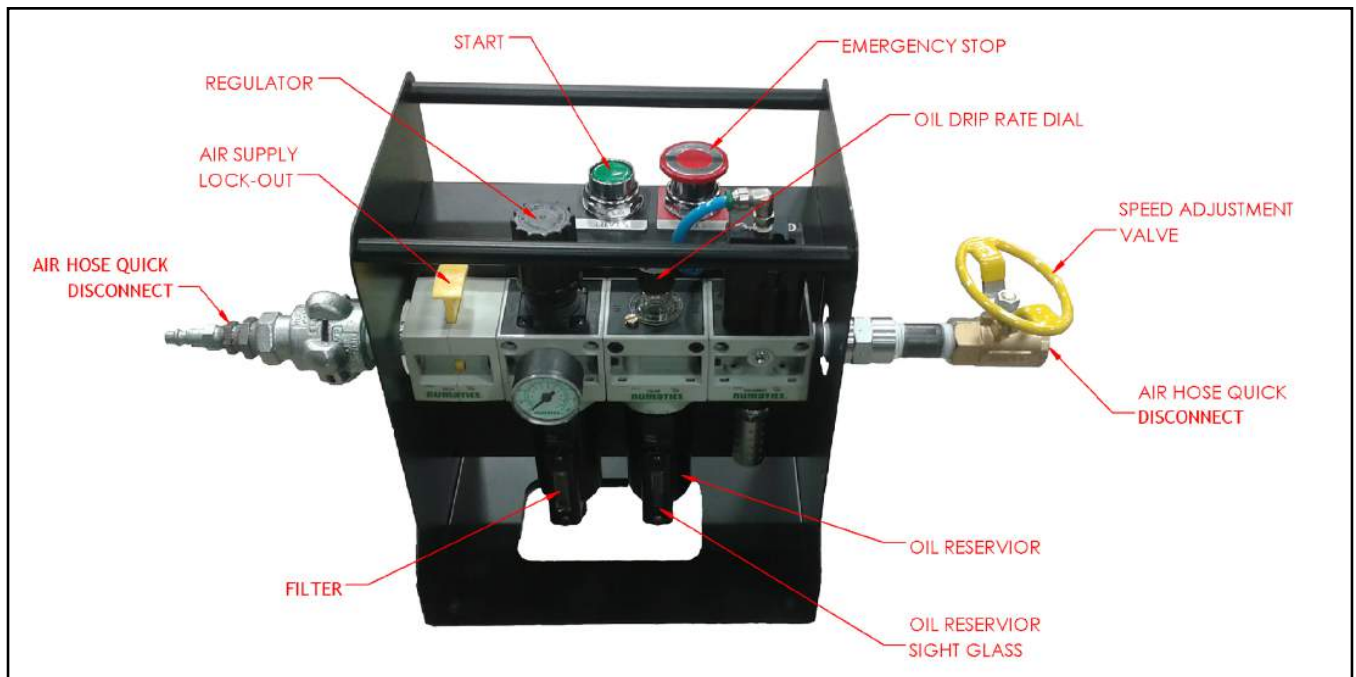

FIGURE 4-4. AIR CADDY CONTROLS
1. Complete these steps on the Air Caddy (shown in Figure 4-4):
5. Adjust the oil drip rate as needed (see Figure 4-4).
3. Press the AIR SUPPLY LOCK-OUT valve down to close it (seen in Figure 4-4). This will release residual air pressure in the Air Caddy circuit.
1. Check the Air Caddy oil reservoir sight glass (see Figure 4-4 on page 23). Refill as necessary.
2. Check that the air-supply lock-out is open (that is, pulled up). See Figure 4-4 on page 23.